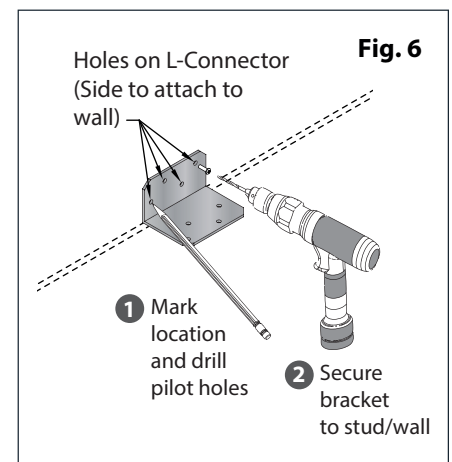

Fig. 6
3. Confirm that the L-Connector is positioned with the shorter side against the wall. Using the L-Connector as a guide, mark the locations of the screw holes. See figure 6.